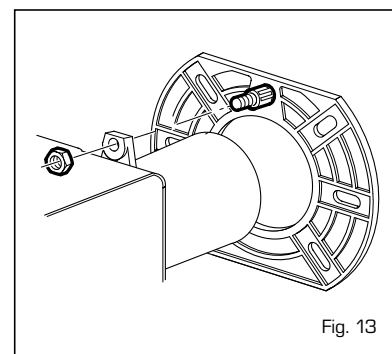

Fig. 13
- loosen the union (2 fig. 13/a) and remove the four screws which fasten the collar (3 fig. 13/a) to the burner.